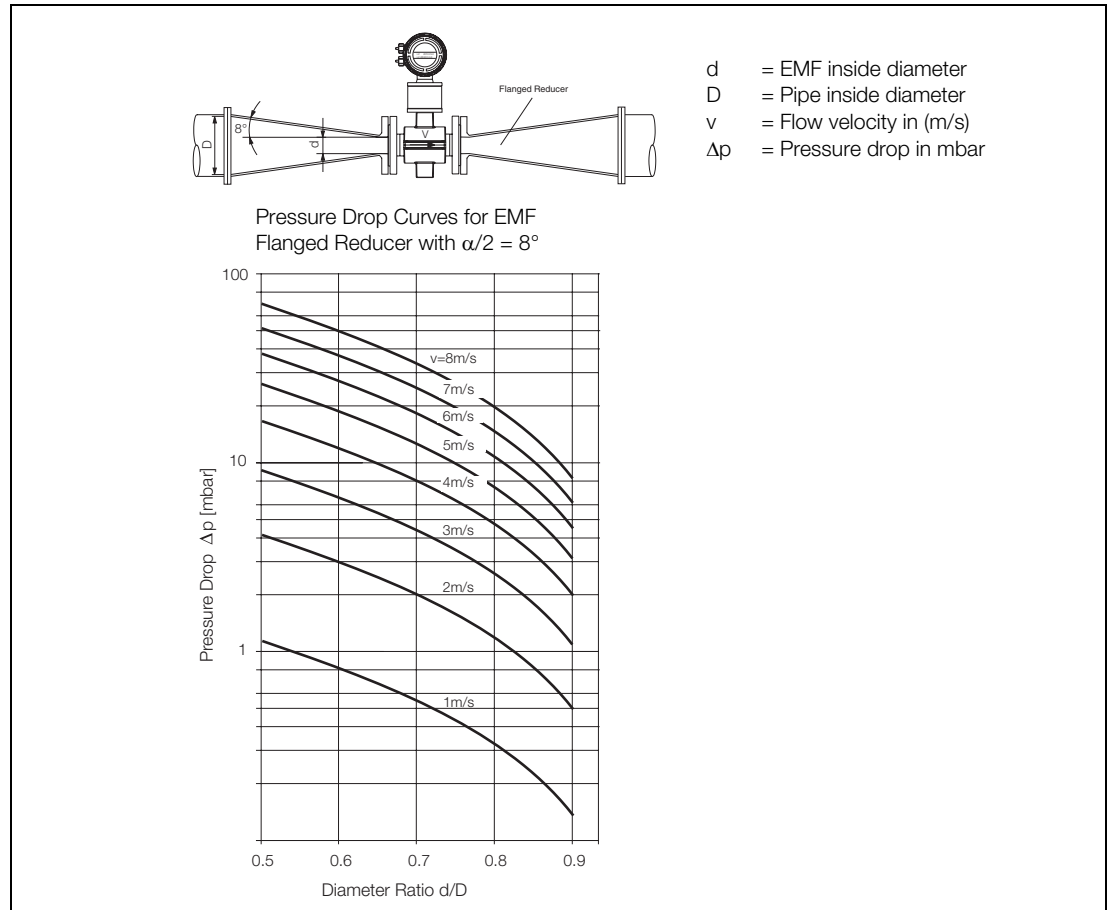

Fig. 15: Nomograph for Pressure Drop Determinations
The flowmeter can readily be installed in larger size pipe lines through the use of flanged transition sections (e.g. Flanged Reducers). The pressure drop resulting from the reduction can be determined from the Nomograph Fig. 15. The pressure drop can be determined using the following procedure:
3. The pressure drop can be read on the -Y- axis at the intersection of the "Flow Velocity" curve and the "Diameter Ratio d/D " value on -X- axis in Fig. 15.